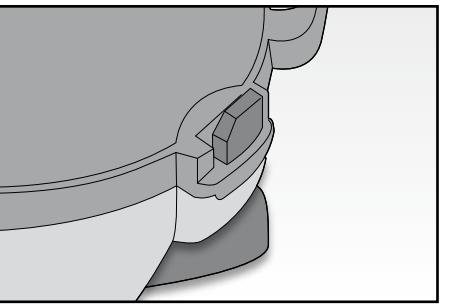

Fig. 6
- Open the two side levers (F) and remove the lid (E) (FIG. 6).